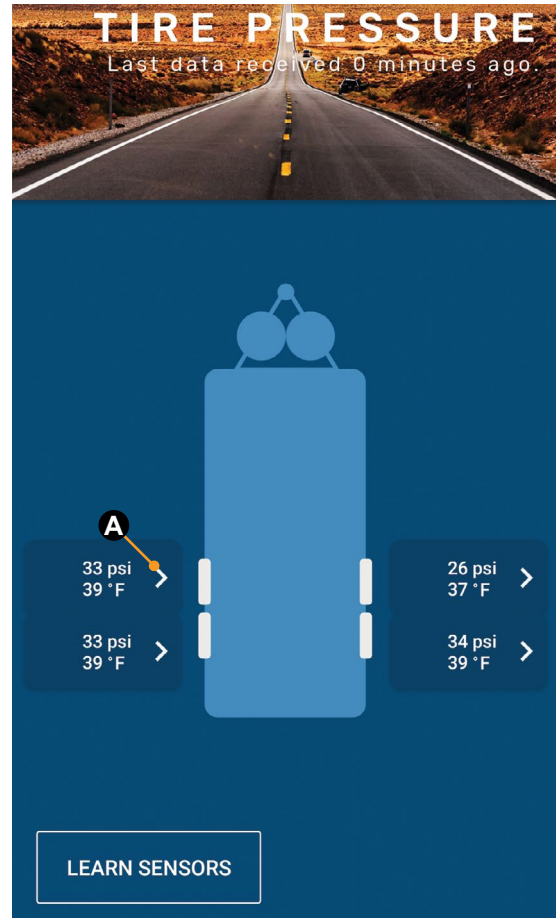
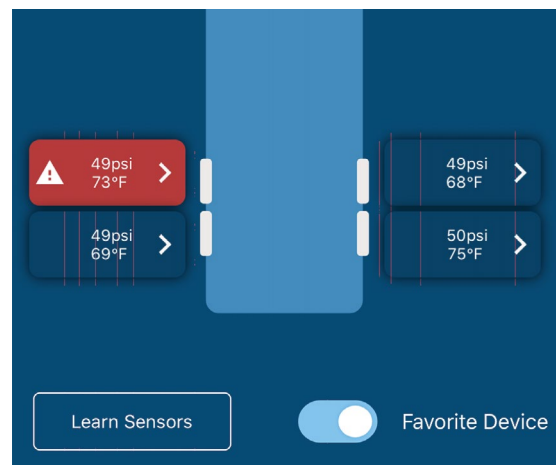

Fig.16
Fig.17
2. The smart phone will connect to the repeater and the app will display a trailer image with tire pressures and temperatures (Fig.16).
NOTE: Figure 16 shows tire pressures and temperatures within the specification ranges for the left front tire while figure 17 shows the tire is outside specification ranges.